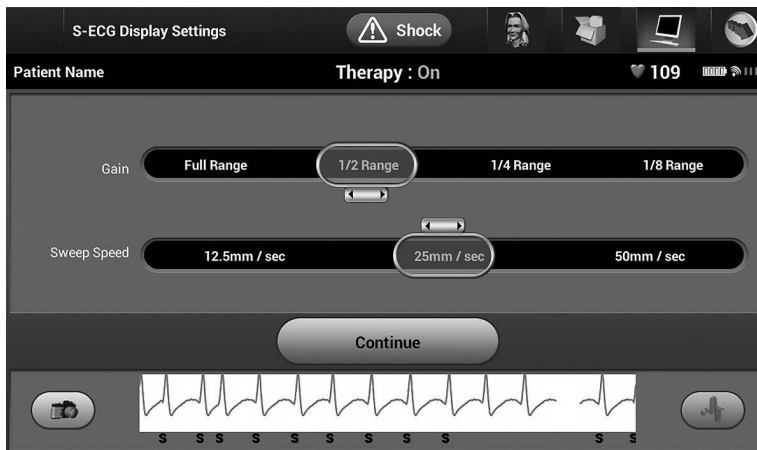

Figure 19: Adjusting Gain and Sweep Speed
2. A scrollable list containing both Captured S-ECG and Induction S-ECG strips is displayed (Figure 19). Select the desired S-ECG(s) to be printed by placing a check mark next to the selection(s).